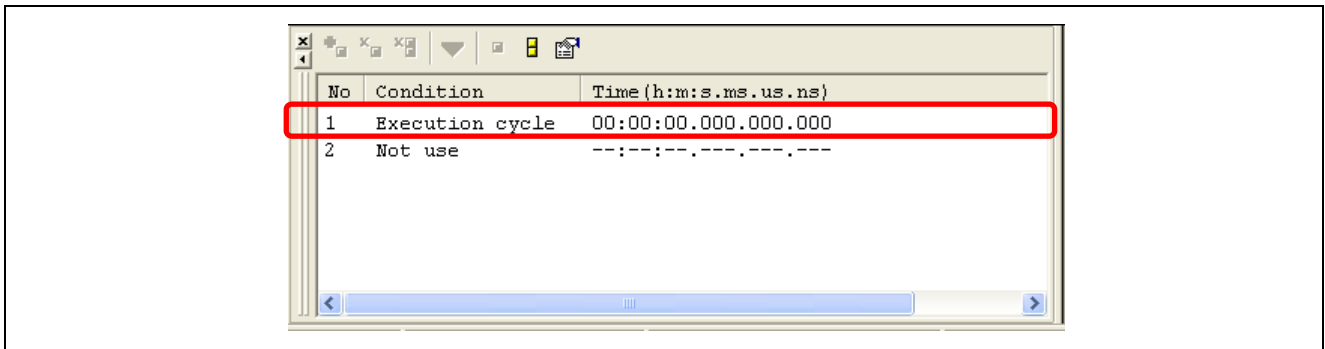

Figure 4.56 [Performance Analysis] Window after Conditions are Specified
(5) Check that the settings are reflected in the [Performance Analysis] window as shown in Figure 4.56.